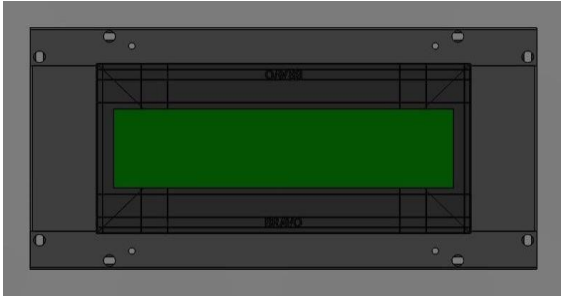

Fig.5
1. Once the drip tray has been cut to the proper dimensions install the tray over the conversion frame's water splash lip. (Fig. 5)